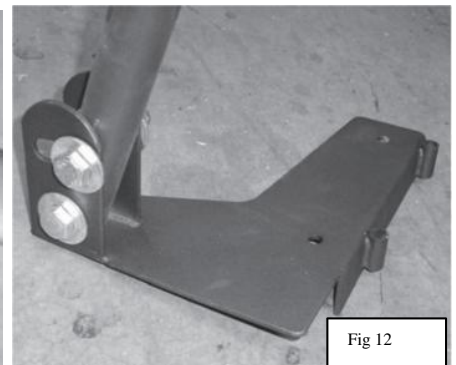

Fig 12
5. Install the rear drivers side mounting foot to the bottom of the rear drivers side upright. Bolt the upright to the mounting foot using 2 # 18 x 100 mm bolts, flat washers, spring washers and locknuts. (Fig 12)